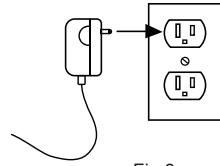

Fig 6
6. Plug in the electric adaptor. (Fig 6)